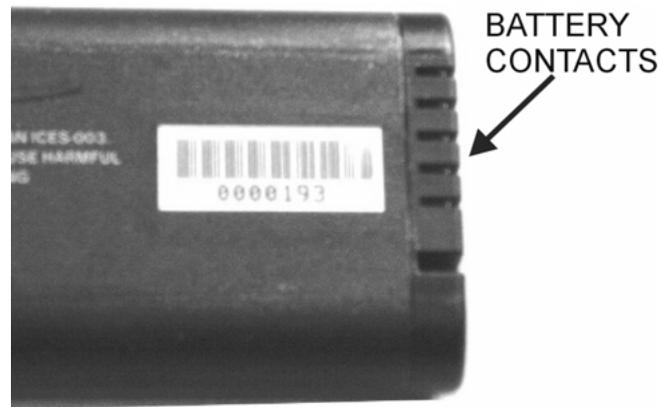

Figure 3-4. Battery Contacts
5. Replacement is the opposite of removal. Note the orientation of the battery contacts, and be sure to insert the new battery with the contacts facing the bottom of the unit (Figure 3-4).